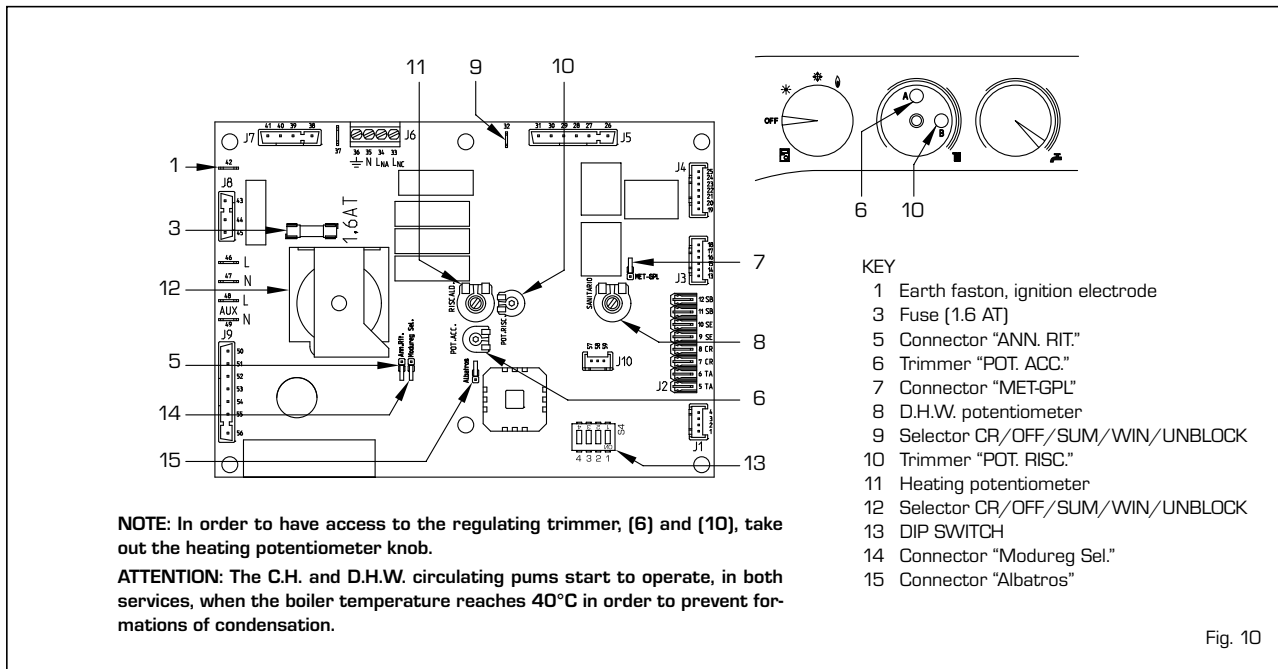

Fig. 10
- **Trimmer "POT. RISC."** (10 fig. 10)
- **Trimmer "POT. ACC."** (6 fig. 10)
- **Connector "MET-GPL"** (7 fig. 10)
- **Connector "ANN. RIT."** (5 fig. 10)
- **DIP SWITCH** (13 fig. 10)
- **Connector "Modureg Sel."** (14 fig. 10)
- Connector "Albatros" [15 fig. 10]